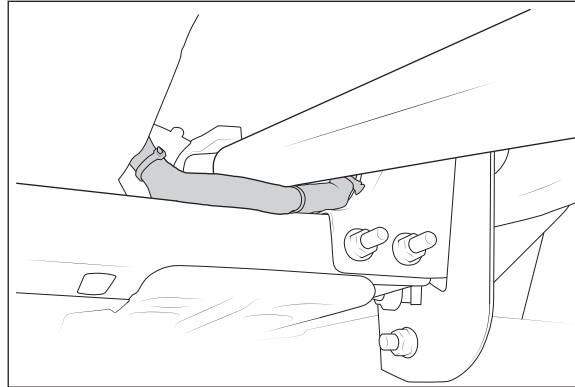

Figure 14
NOTE for 3500 Trucks with the AISIN AS66RC Transmission upgrade: The chassis wiring harness will contact the front drive shaft at full extension (fig. 14) and must be relocated. Disconnect the wiring harness from the frame so it can be moved further to the rear of the vehicle. Zip-tie in place using existing holes in the frame.
- B. Install one side at a time and torque all fasteners (fig. 14).